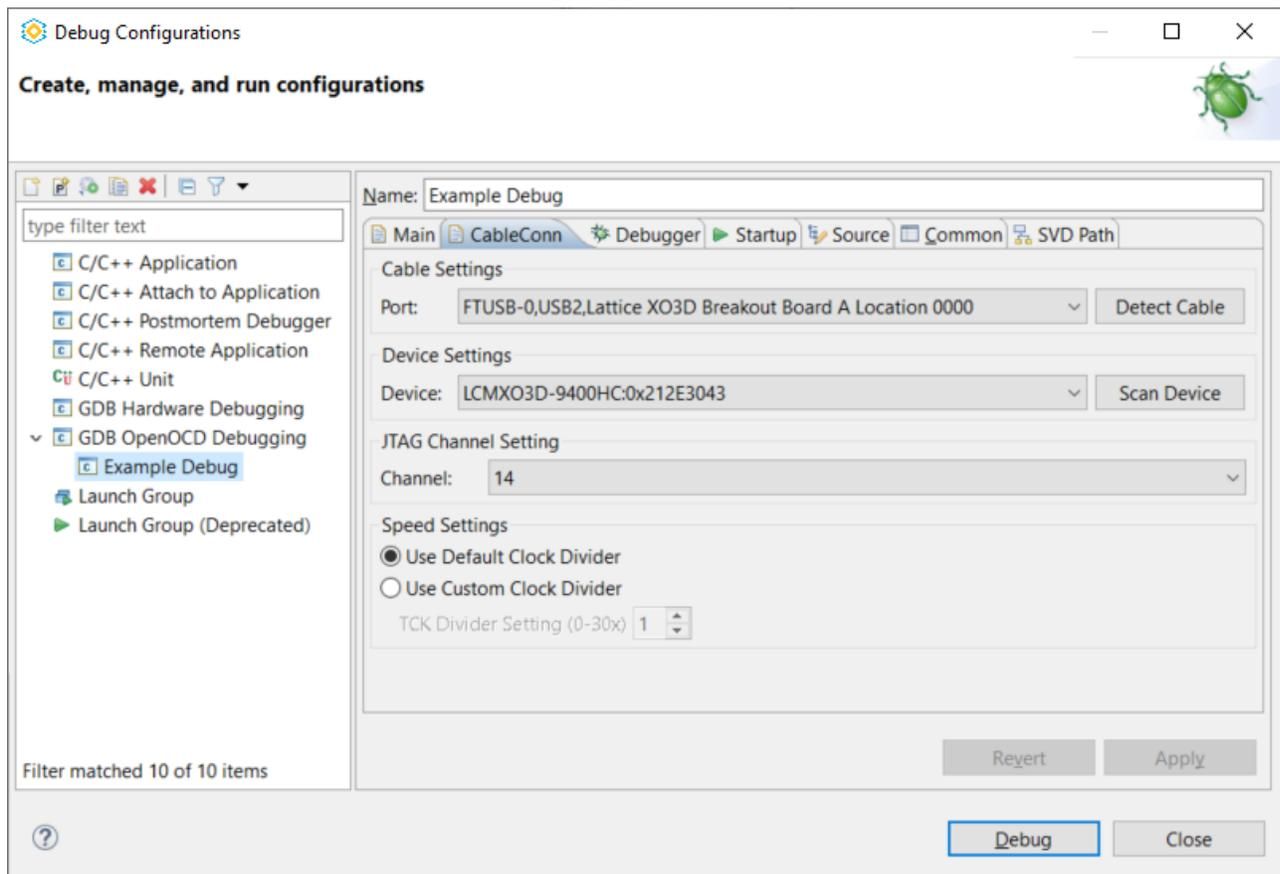

Figure 3.32. CableConn Tab of Debug Configurations
5. Select the **CableConn** tab (Figure 3.32). This tab enables you to select a specific device on a specific cable port.